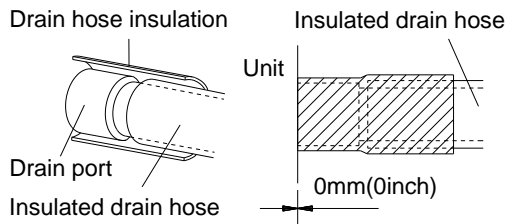

Figure 3-1-13
- (9) Be sure to insulate where the drain port and the drain hose is connected (Figure 3-1-13).